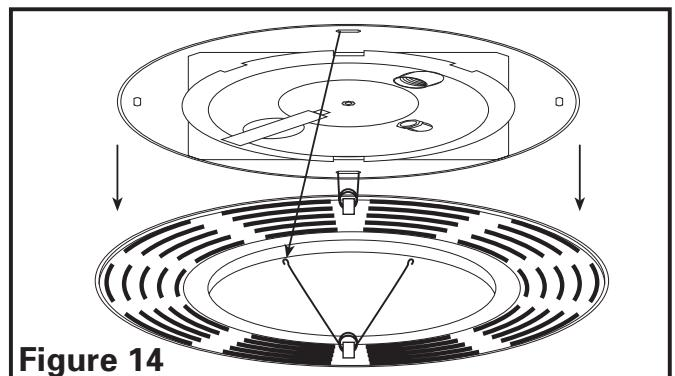

Figure 14
- Changing the Light Bulb:** Disconnect power to the unit. Remove grill by pulling downward on grill and squeezing grill springs together to release from housing (**Figure 14**).